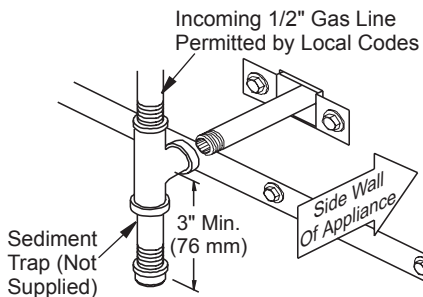

Figure 15 - Sediment Trap
1. Install a sediment trap between incoming gas line and gas control valve (see Figure 15). Sediment trap should extend down center of pipe. Refer to your local codes.